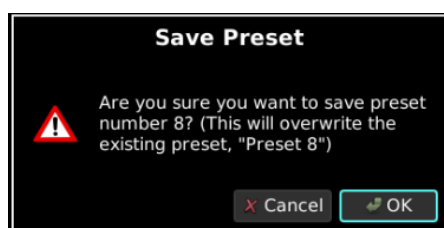

Figure 2-71 Save Preset Screen
1. To save a preset, press and hold the desired key for a minimum of three seconds, select **OK** at the prompt (see Figure 2-71), then press **ENTER**. Always make a note of the number you use for each preset.